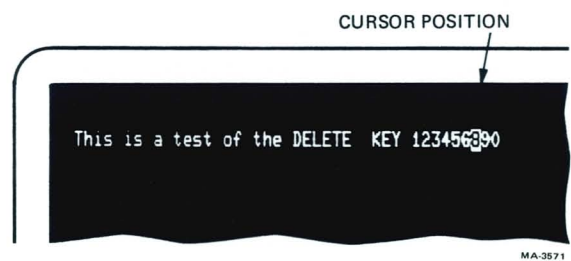

Figure 1-24 Error Deleted
2. Press **DELETE** once. The character to the left of the cursor is deleted (Figure 1-24). The cursor and all other characters in the field or on the line move left one character position to fill the space left by the deleted character. A space is inserted at the right end of the field or line on which the character was deleted.